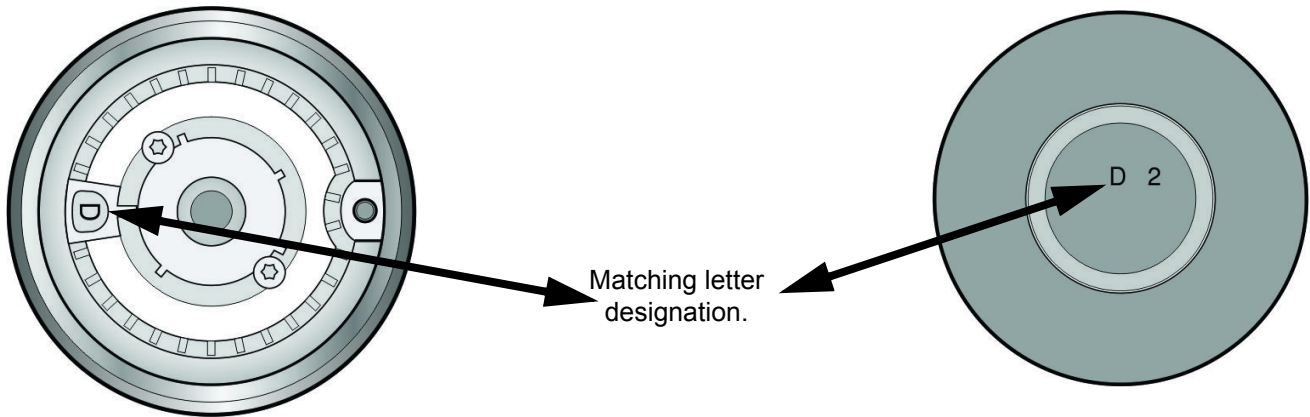

Figure 9: Burners Caps
- After electrical connection is complete, place each burner cap on its correct burner base per its corresponding letter designation. See *Figure 9 "Burners Caps"* on page 12.